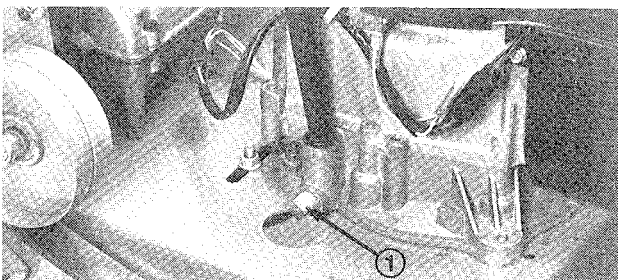

Figure 16
- Turn engine off and place drain pan under frame, below drain plug (Fig. 16). Remove drain plug and allow all oil to flow into drain pan. Install drain plug after oil stops flowing.